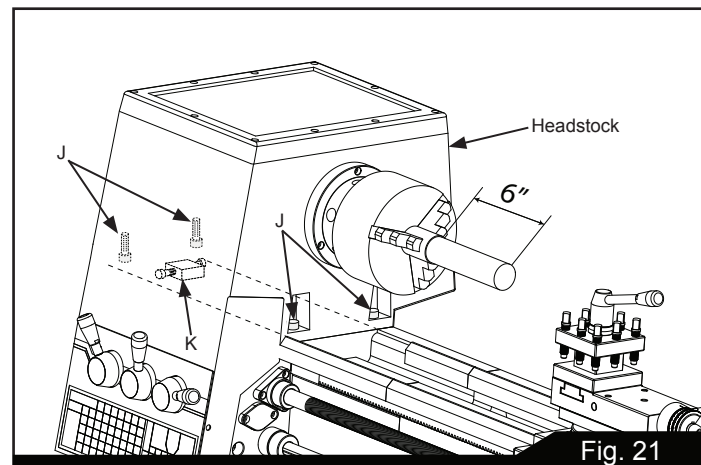

Fig. 21
To correct a difference in readings, loosen the four headstock hold-down screws (J) shown in Figure 21 and adjust the set-over pad (K) beneath the headstock. Then tighten all screws. After adjustment, repeat the test-cut/micrometer reading until micrometer readings are identical so that machine cutting will be absolutely parallel.